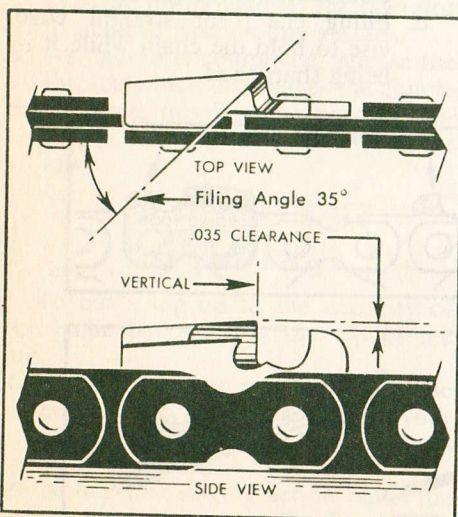

Figure No. 10
2. Place the file so that it is level with and at a 35° angle to the cutting tooth. (See Figure No. 10) Avoid low cutting which leads to "hooks" on teeth. Keep about 1/5 of the file diameter showing above the cutter plate. (For proper filing use CST-11 File Holder Assembly, which gives you the 35° angle and holds the file at a proper position.)